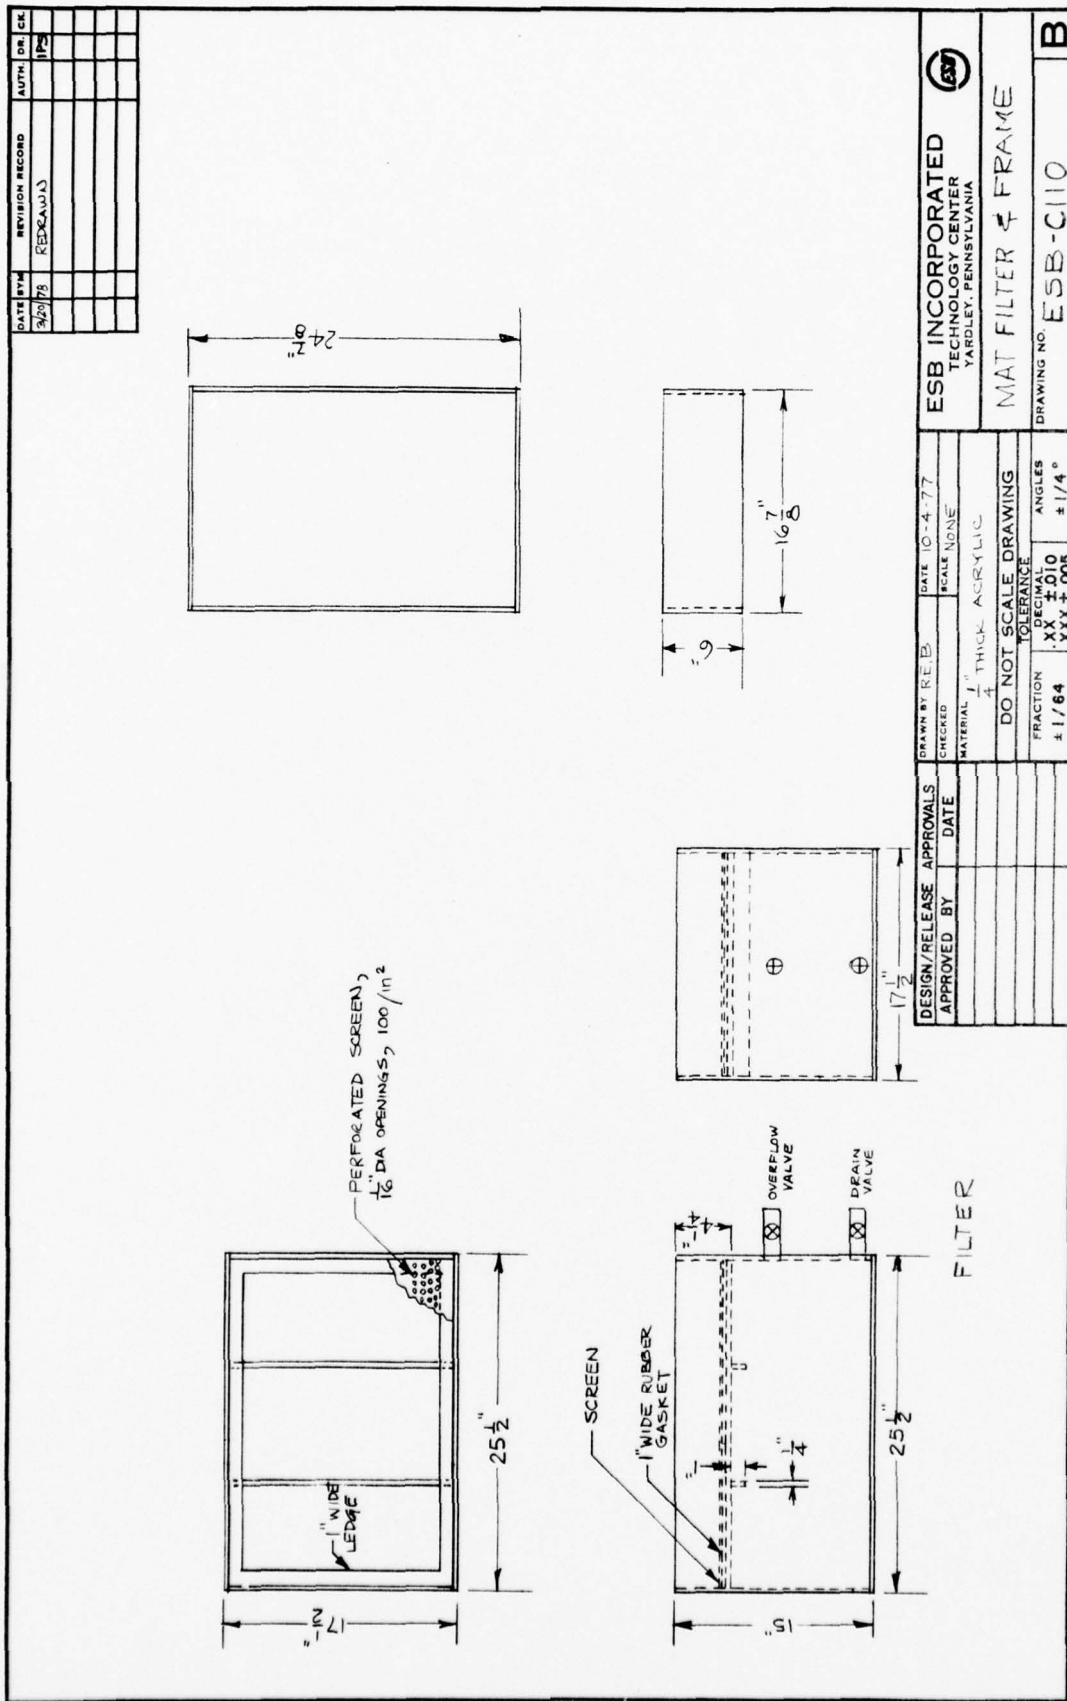

Figure 20 MAT FORMATION FILTER DIAGRAM
2. When all fibers are sparged, pour the contents into the top section of the slurry apparatus. (See Figure 20)